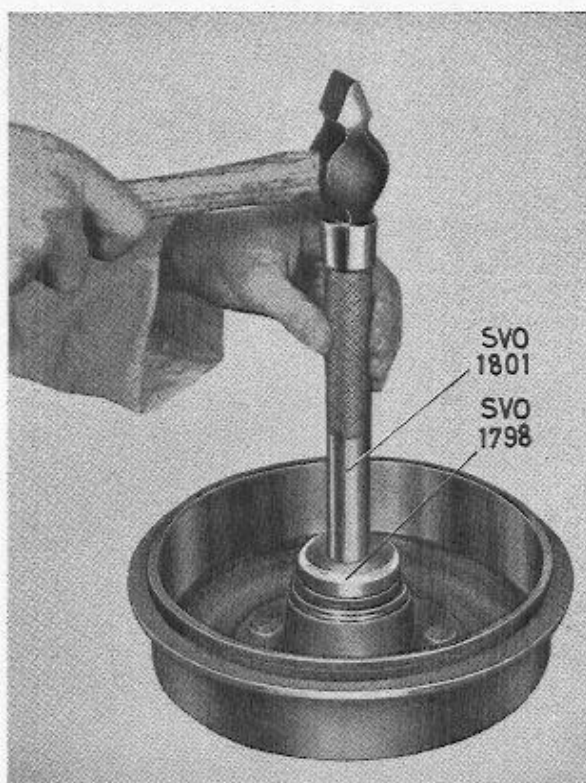

Fig. 19. Fitting sealing ring.
5. If the front wheel bearing has been removed, this is placed in position in the hub. Lubricate if necessary with ball bearing grease. Press in the sealing ring with help of drift SVO 1798 (for chassis numbers 1—20004, SVO 4001) and standard handle SVO 1801, see Fig. 19.